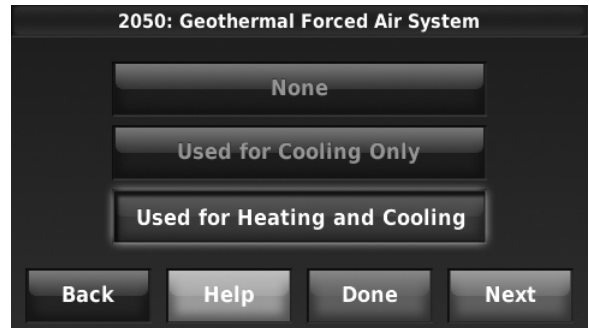

Fig. 100.
4. Select the Geothermal Radiant Heat Options. For example: If this zone is Geothermal Radiant Heat only – select None. See Fig. 100.